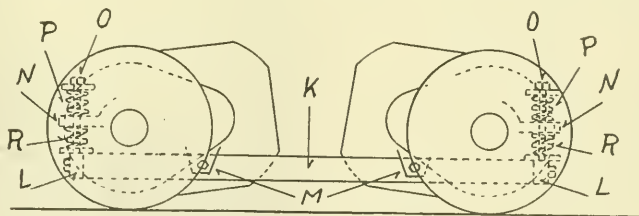

FIG. 2. GIBBS' SUSPENSION.
Fig 2 illustrates this form of motor suspension. Two side bars (K), one on either side of the motors, are joined together across the ends by the bars (L). The frame of each motor is fastened to the side bars at M. The back side of each motor is provided with a lug (N), which is fastened to the bar (L) by bolt (O) with springs (P) and (R) to take up the vibrations. Referring to the figure,